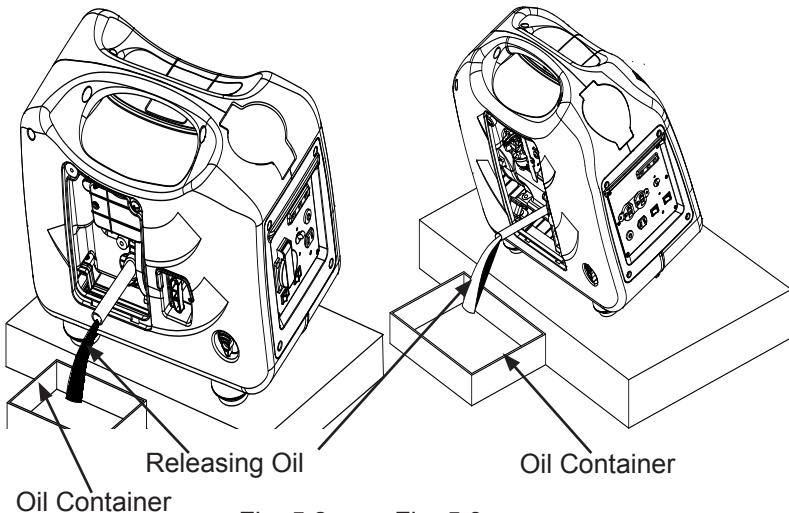

Fig. 5.2 Fig. 5.3
3. Place a container next to the engine to catch the used oil (Refer to Fig. 5.2 for HY1000Si and Fig. 5.3 for HY2000Si)